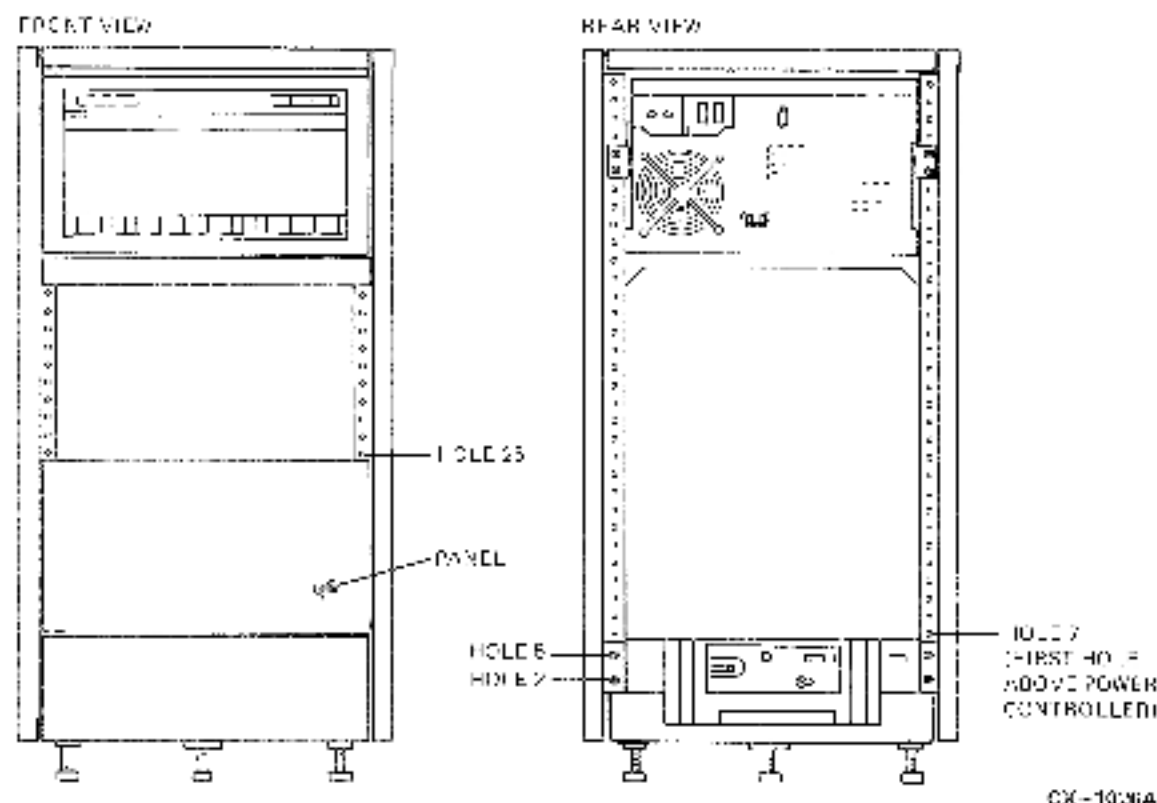
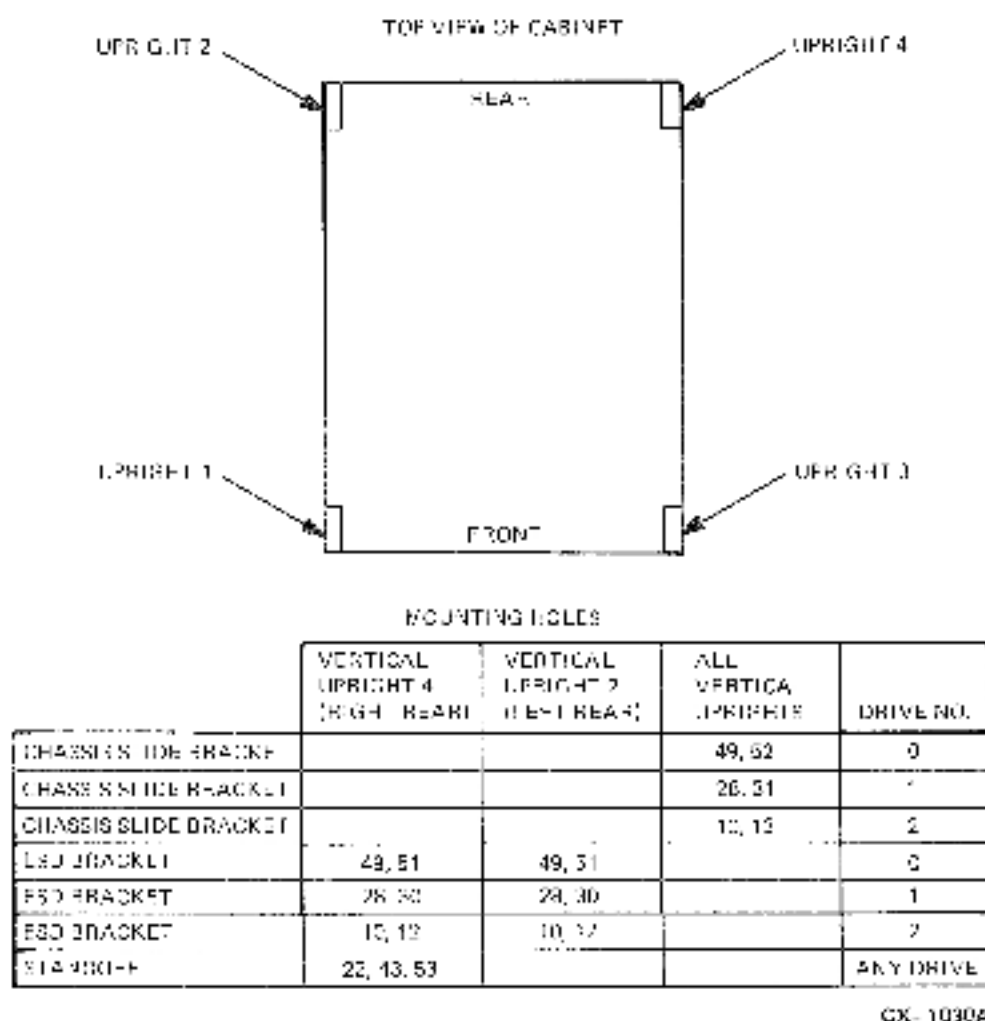

Figure 4-14 Cabinet Upright Holes (40-inch Cabinet)
Figure 4-15 Mounting Hole Table
Drives must be mounted on a slide assembly. Refer to Figure 4-14 and Figure 4-15 for the proper installation hole locations in the 40-inch (three-high) cabinet.
1. Go to the rear of the drive cabinet. Counting from the bottom, locate and mark the mounting holes in both rear cabinet uprights. Refer to Figure 4-14.
2. Go to the front of the drive cabinet. Counting from the bottom, locate and mark the mounting holes on both front cabinet uprights. Refer to Figure 4-14.